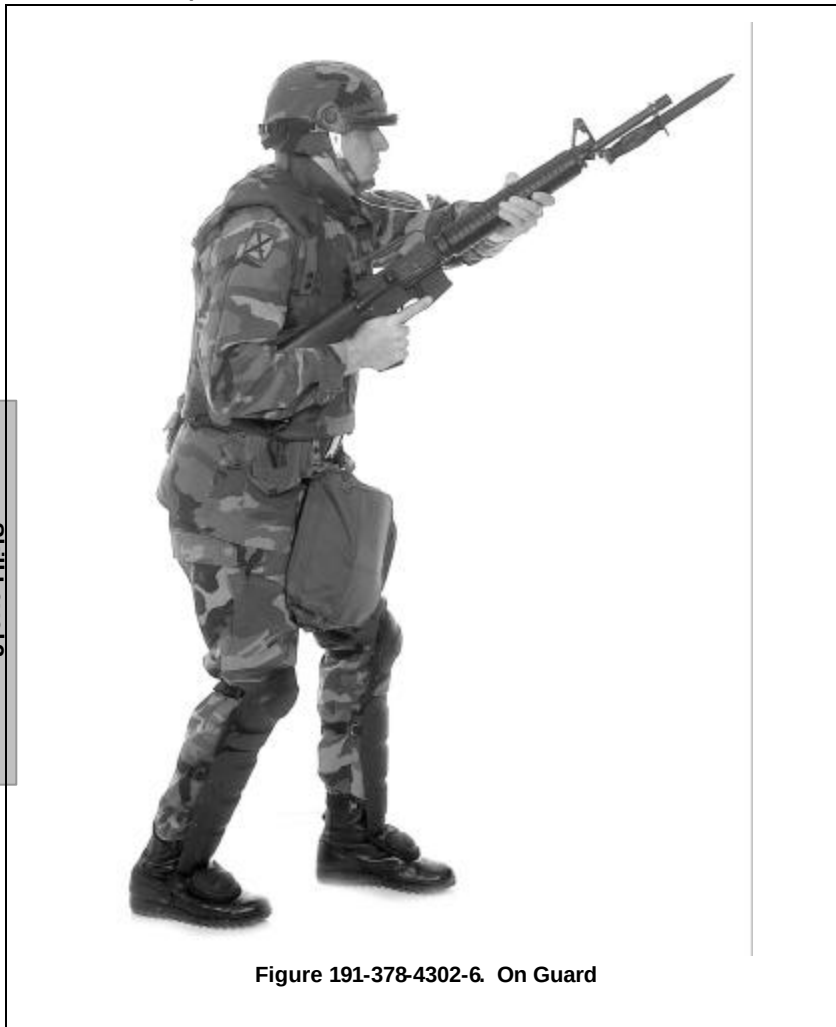

Figure 191-378-4302-5. Safe Guard
c. On guard. Use for complete readiness and when troops are in contact with a group showing any kind of resistance or hesitation to withdraw (figure 191-378-4302-6).